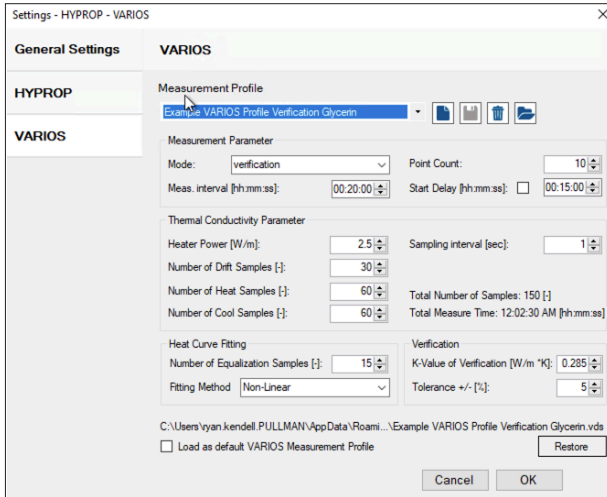

Figure 28 Example VARIOS Glycerin verification measurement profile
- VARIOS Glycerin verification measurement (Figure 28)